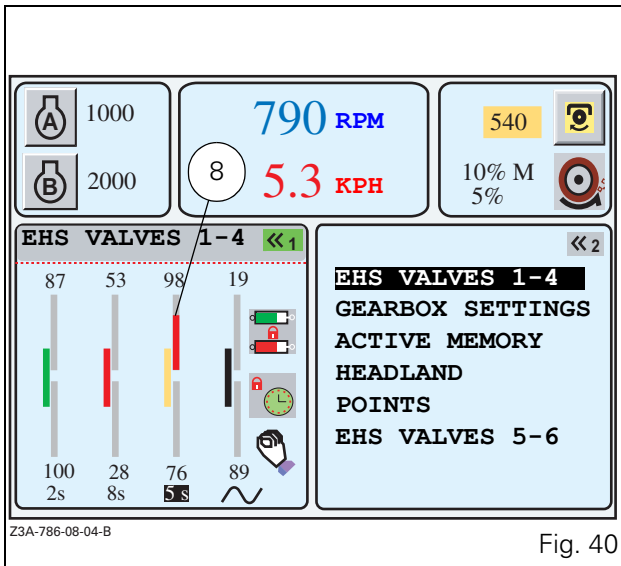
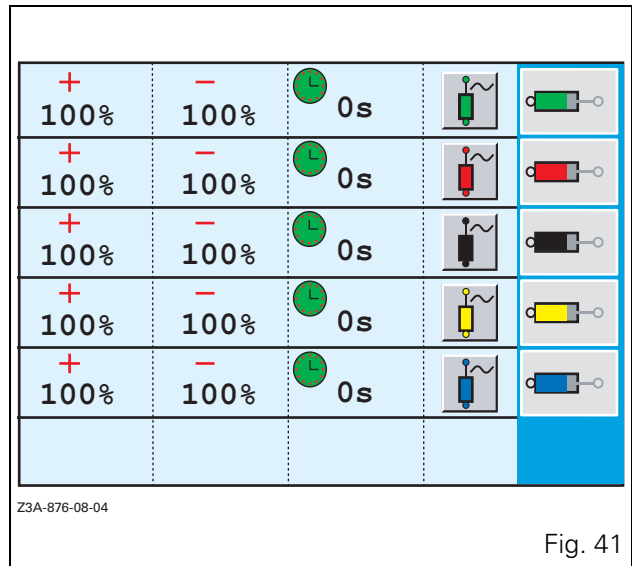

Fig. 40
Fig. 41
- Validate by pressing the encoder or the key \llcorner_1 . The window (Fig. 40) is displayed.
Description (Fig. 40):
Shortcut icon providing access to the **EHS VALVE SETTINGS** application by pressing the key «₆ when the window is active. The window (Fig. 41) is displayed.
NOTE: When the window (Fig. 41) is open, press the key **ESC**. The window (Fig. 40) is displayed again if it was open previously.